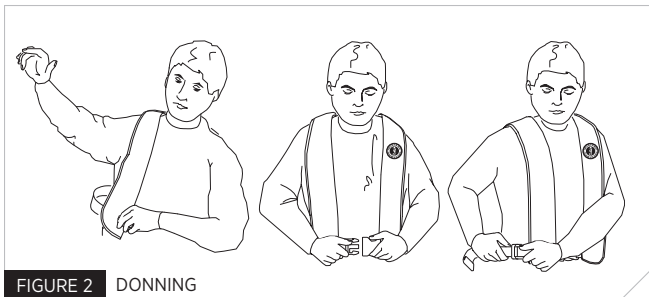

FIGURE 2 DONNING
2. Put the Inflatable PFD on just like a jacket (Fig. 2) and fasten the front buckle. Adjust the waist belt using the side buckle on the belt and secure the belt's loose end in the belt loop.